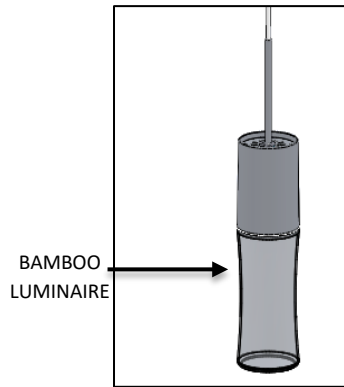

FIG.2 - BAMBOO LUMINAIRE
1. BAMBOO LUMINAIRE with CORD attached. (Pre-assembled as shown in FIG. 2)